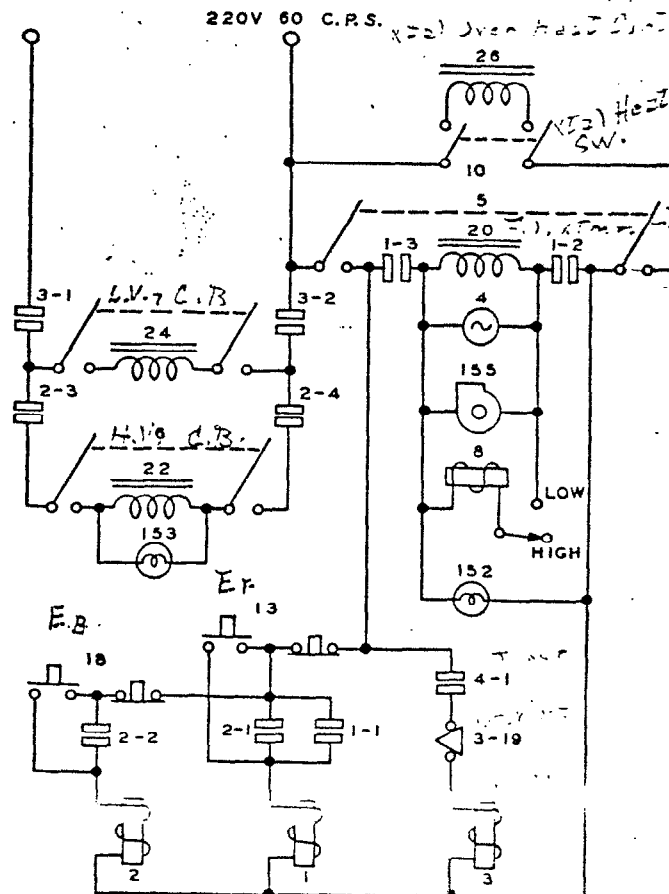

Figure 2.5. Power Control Circuits
a. AC PRIMARY CIRCUITS. (Refer to figure 2-5.)—All power contactors in the equipment are of the 115 volt ac type. All power circuits are controlled by opening or closing the transformer primary circuits. The 300G transmitter uses a constant voltage transformer to supply power to the